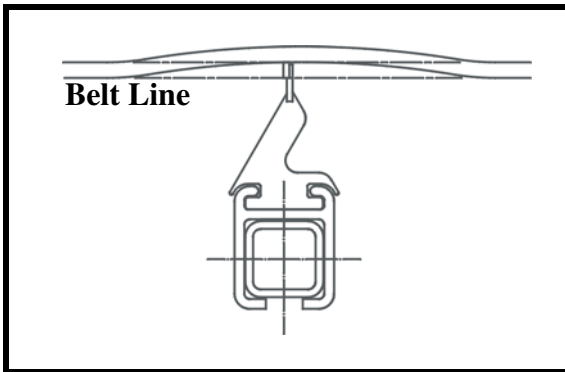
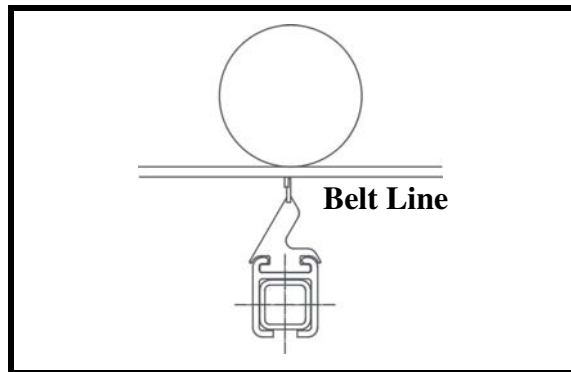

Figure 6a. Cleaner Changing Belt Line
Figure 6b. Cleaner with Belt Support
3. Make sure cleaner is not changing belt line (Figure 6a). If it is, install belt support ahead of blade-to-belt contact point (Figure 6b).